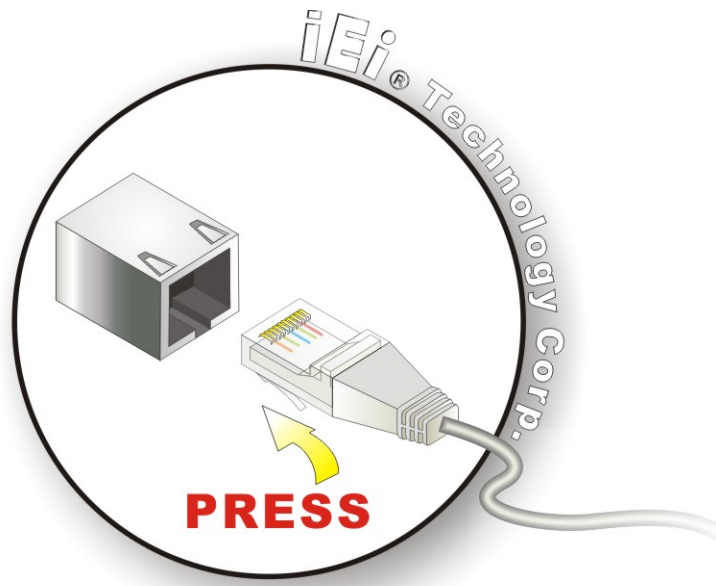

Figure 4-25: LAN Connection
Step 2: **Align the connectors.** Align the RJ-45 connector on the LAN cable with one of the RJ-45 connectors on the bottom panel of the AFOLUX AFL-xxA-N270 Series. See **Figure 4-25**.